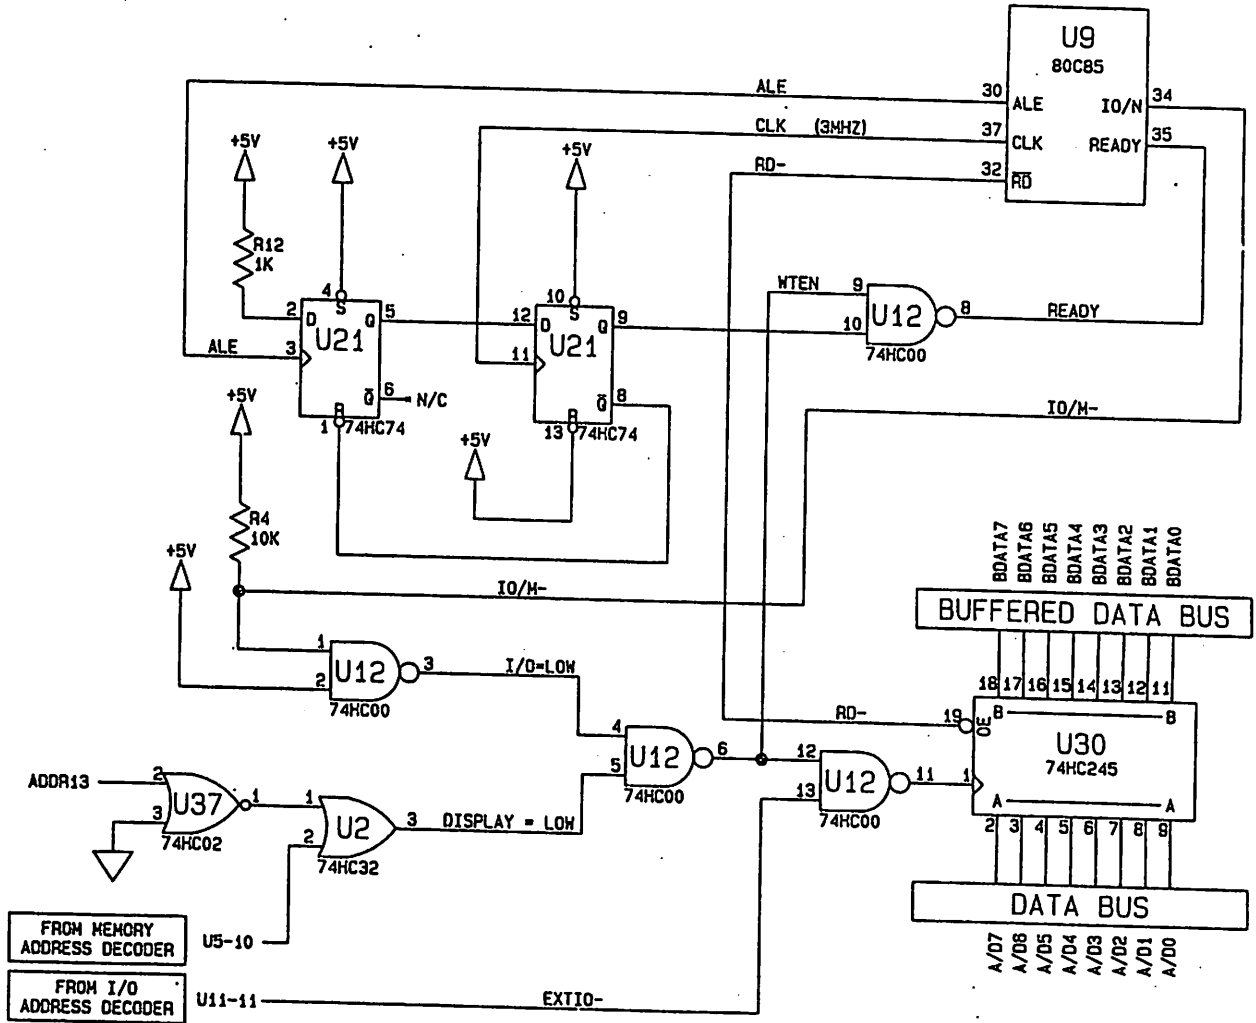

Figure 3-6. WTEN and READY Signals (U410)
3.2.10 Wait-State Generator (figure 3-6)